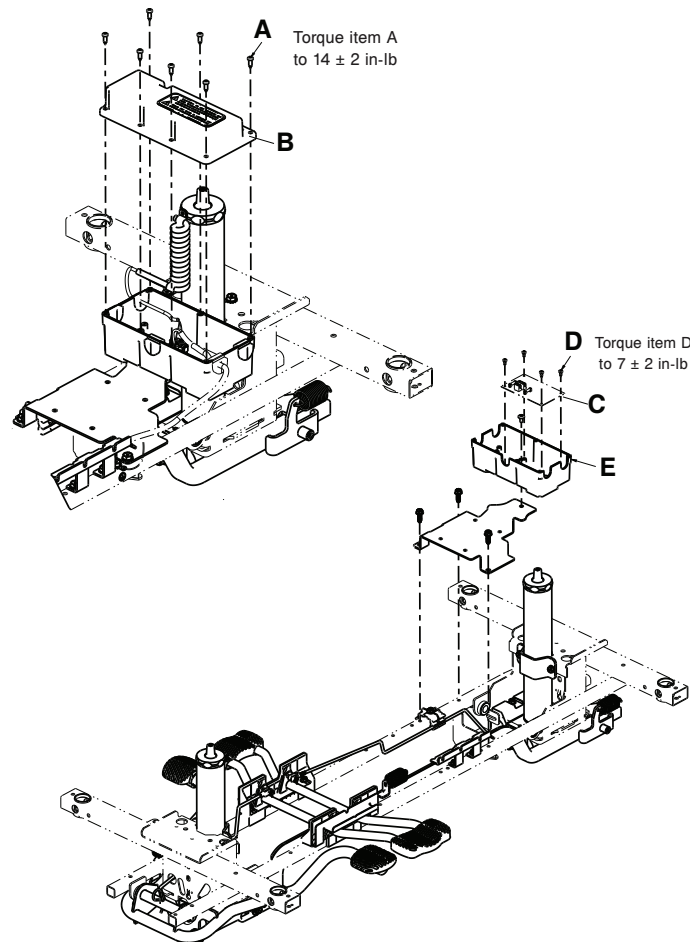

Figure 20 – Replace the power board
4. Using a #2 Phillips screwdriver, remove the seven pan head tapping screws (A) that secure the power board box cover (B) (Figure 20). Remove and save the power board box cover.